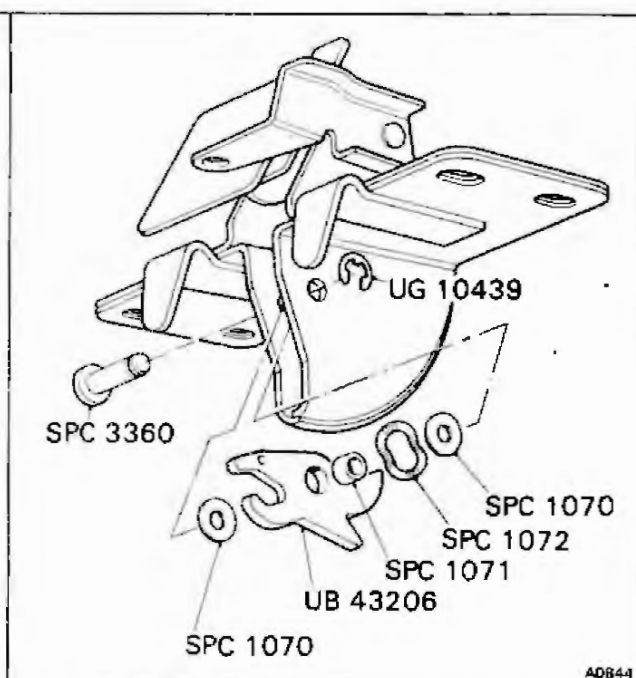

Fig. 2
- 4 Replace the 'star' wheel with the claw, using a wave washer on the side away from the roll pin on the claw, and plain washers on both sides (see fig. 2).